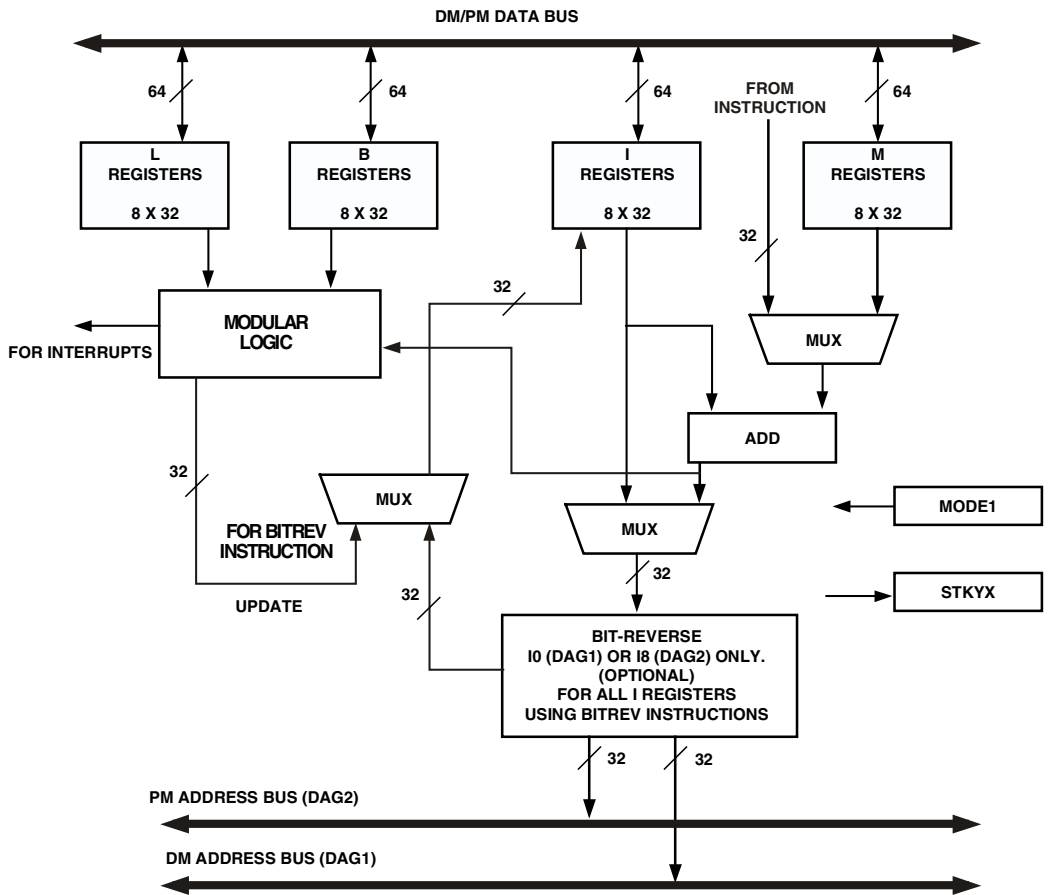

Figure 4-1. Data Address Generator (DAG) Block Diagram
The DSP's Data Address Generators (DAGs) generate addresses for data moves to and from Data Memory (DM) and Program Memory (PM). By generating addresses, the DAGs let programs refer to addresses indirectly, using a DAG register instead of an absolute address. The DAGs architecture, which appears in Figure 4-1, supports several functions that minimize overhead in data access routines. These functions include:
As shown in Figure 4-1, each DAG has four types of registers. These registers hold the values that the DAG uses for generating addresses. The four types of registers are:
The DSP's DAGs perform several types of operations to generate data addresses. As shown in Figure 4-1, the DAG registers and the MODE1, MODE2, and STKYx registers all contribute to DAG operations. The following sections provide details on DAG operations:
An important item to note from Figure 4-1 is that the DAG automatically adjusts the output address per the word size of the address location (short word, normal word, or long word). This address adjustment lets internal memory use the address directly.